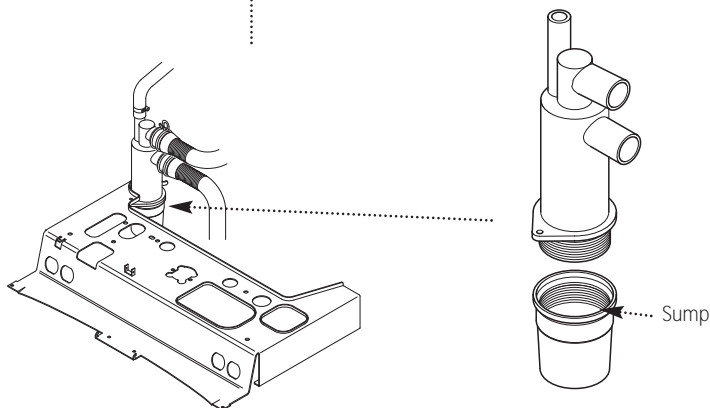

Fig. 71
5. Unscrew the sump from the bottom of the condensate trap assembly (Fig. 71) and remove any deposits from the sump and trap. Clean as necessary and replace the sump.